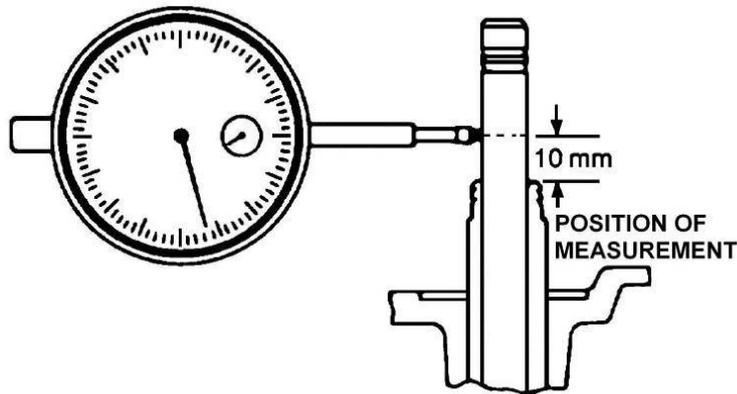

Figure 8 Measuring the Valve Guide Wear
- j. Check the valve guides for wear by installing the valves in their respective guides and, using a dial indicator (Figure 8), push the valve stem back and forth against the micrometer plunger. The standard clearances are:
- (1) inlet valve guides - 0.039 to 0.200 mm (0.0015 to 0.008 in); and
- (2) exhaust valve guides - 0.064 to 0.250 mm (0.0025 to 0.010 in).